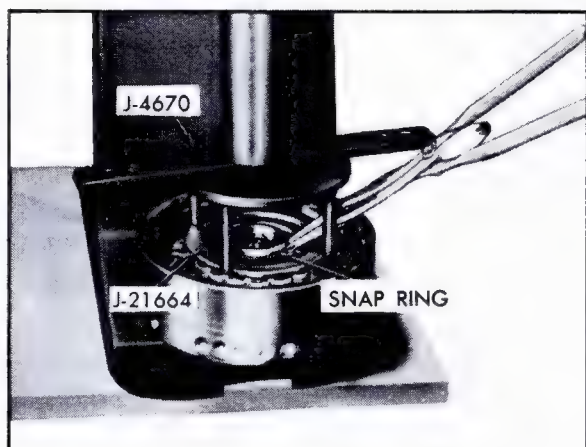

Fig. 7-204 Removing and Installing Forward Clutch Housing Snap Ring
e. Using Clutch Spring Compressor, J-4670, and Adapter, J-21664, compress spring retainer with arbor press and remove snap ring using Snap Ring Pliers, J-8059 or J-5586, Fig. 7-204.
ring using Snap Ring Pliers, J-8059 or J-5586, Fig. 7-204, and remove tools.